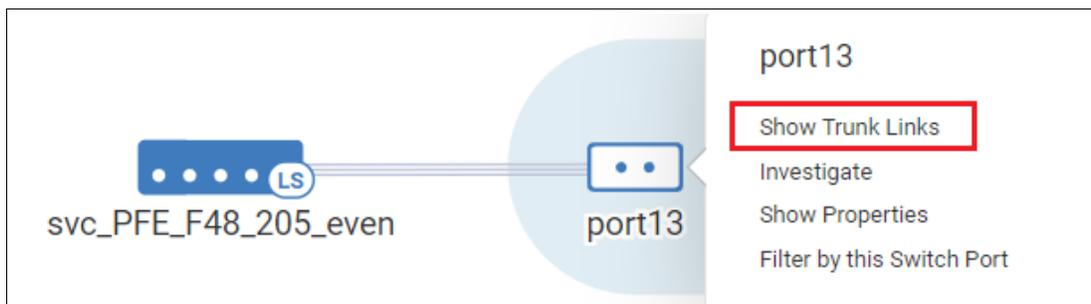

Figure 5-102 Show Trunk Links
7. If the link is a trunk, hover your cursor over the port icon at one end of the link, click the hamburger icon, and then select **Show Trunk Links** to view details about the trunk (Figure 5-102).